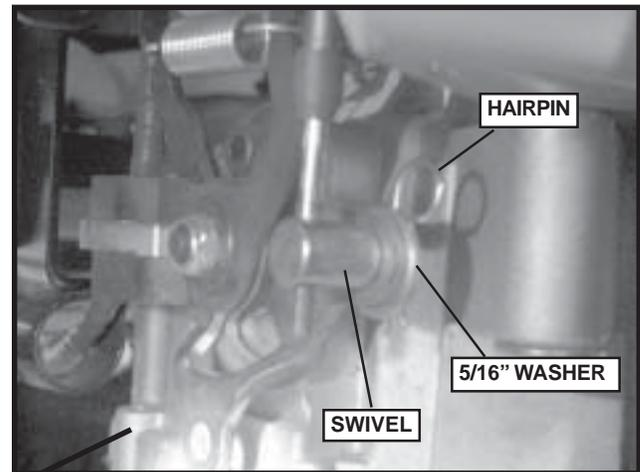

FIGURE 3
2. Pull back the plastic on both sides of the mower so the lower cable ends are visible. See Figure 3. If your mower is un-crated, fold the drive levers into the operating position.
13. Verify that the drive lever is still in-line with the neutral slot, (Figure 3) if it is not, repeat steps 8 thru 13. Repeat operation on opposite side.